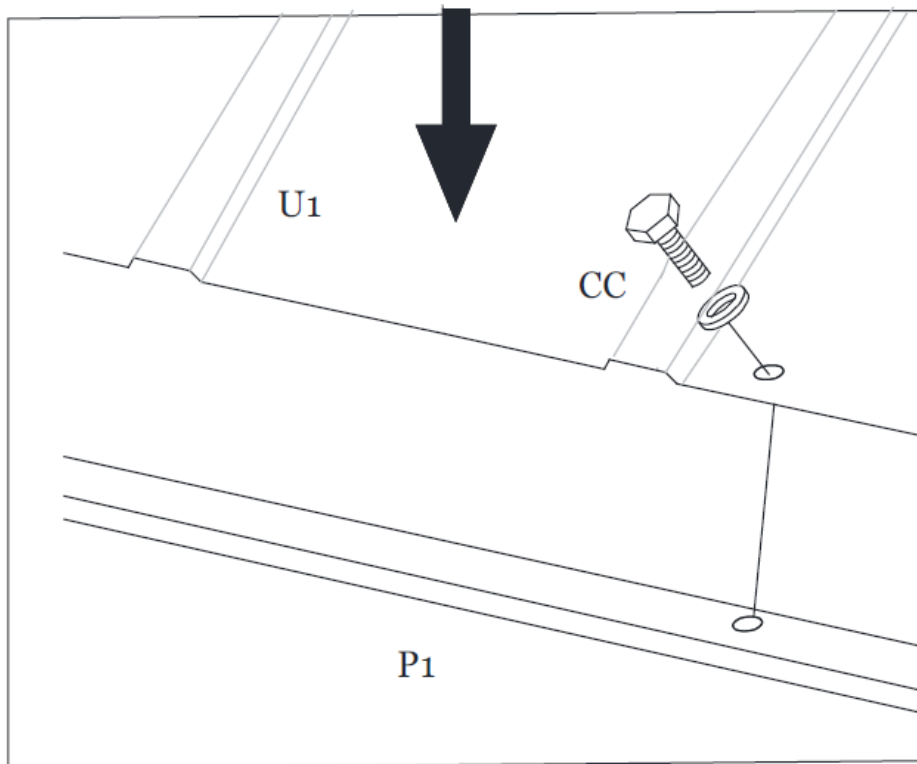

Figure 10-2
Step 10B: Secure the Roof Vent Panel (U1) to the Short Side of the Roof Vent Frame (P1) using Bolt (CC). See Figure 10-2.